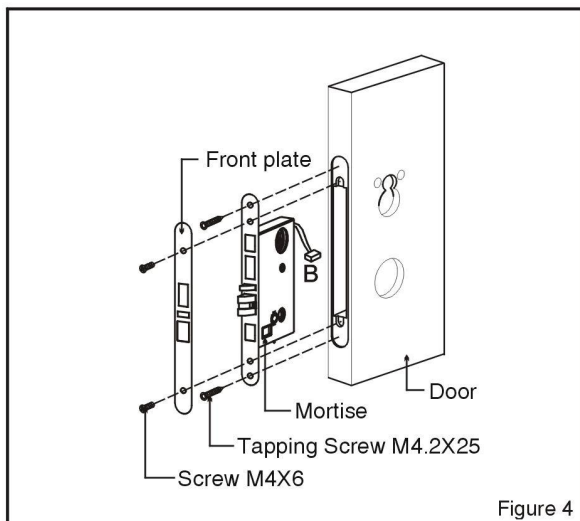

Figure 4
(1). As figure 4 shown, pull out mortise wire B to inside and fix the mortise by 2 pieces of tapping screw M4.2X25. Cover the Front plate on it and fasten it by 2 pieces of screw M4X6.